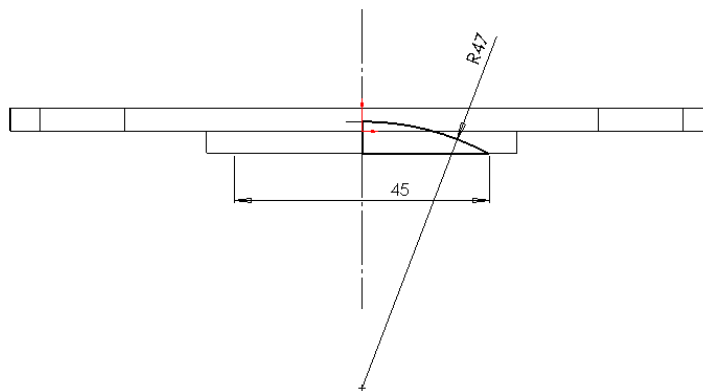

Figure 7-88 Sketch for the revolve cut feature
- d. Create the revolve cut feature to create the dome of the cylinder head, refer to Figures 7-88 and 7-89.
2. Create the sketch for the revolved cut feature and add the required relations and dimensions as shown in Figure 7-88. You may need to apply the vertical relation between the center of the arc and the origin to fully define the sketch.